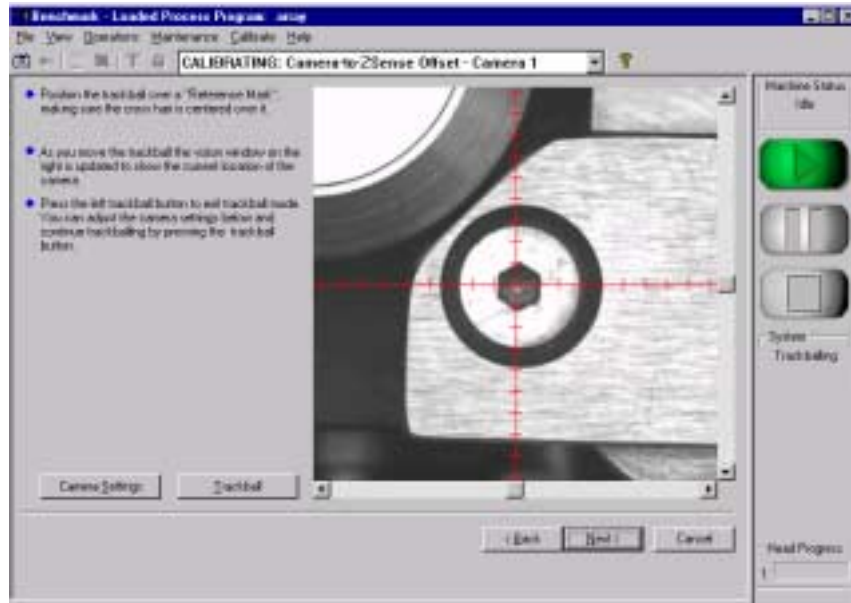

Figure 6-27
4. A vision window appears in the **Camera-to-ZSense Offset** screen. See Figure 6-27.